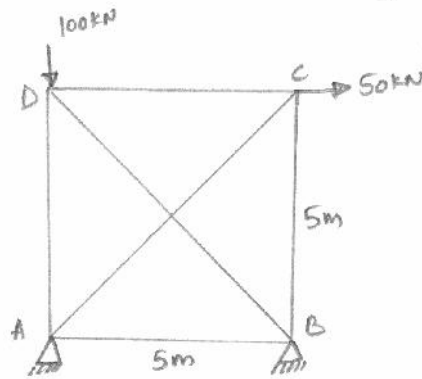

Fig. 4
13. Analyze the truss shown in fig . 4 by using flexibility matrix method, AE constant